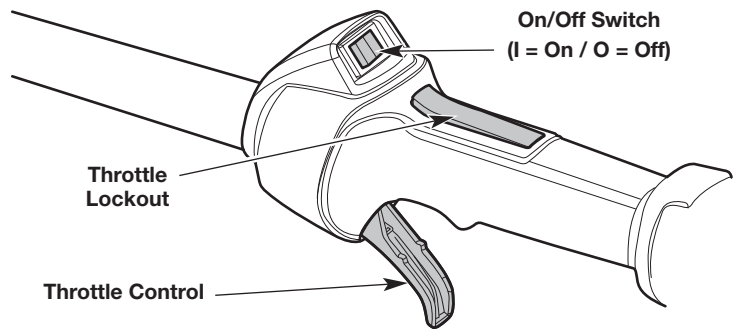

Fig. 7
NOTE: There is no need to turn the unit on. The On/Off switch is in the **On (I)** position at all times (Fig. 7).
NOTE: **DO NOT** squeeze the throttle control until step 8 (Fig. 7).
8. Press and hold the throttle lockout (Fig. 7). Squeeze the throttle control as needed for operation (Fig. 7).
2. Press and hold the On/Off switch in the **Off (O)** position until the engine comes to a complete stop (Fig. 7).
NOTE: There is no need to turn the unit on. The On/Off switch is in the ON (I) position at all times (Fig. 7).
NOTE: DO NOT squeeze the throttle control until step 10 (Fig. 7).
10. Press and hold the throttle lockout (Fig. 7). Squeeze the throttle control as needed for operation (Fig. 7).
2. Press and hold the On/Off switch in the OFF (O) position until the engine comes to a complete stop (Fig. 7).